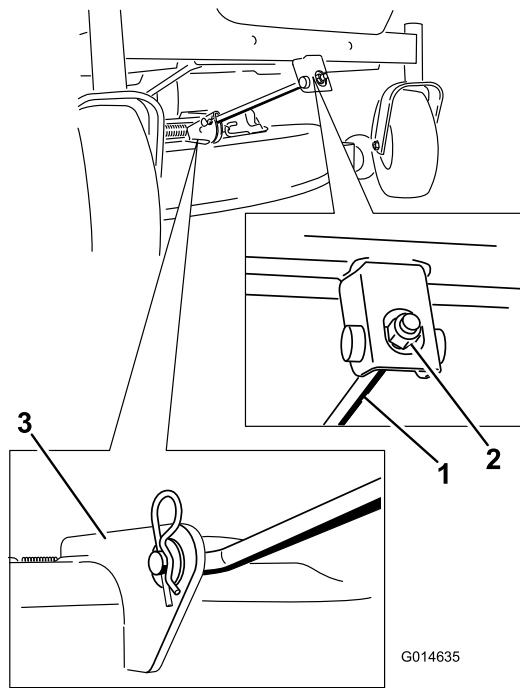

Figure 52
4. Remove the hairpin cotter from the front support rod, and remove the rod from the deck bracket (Figure 52). Carefully lower the front of the mower deck to the ground.
- Attach the front support rod to the mower deck with the clevis pin and hairpin cotter (Figure 52).